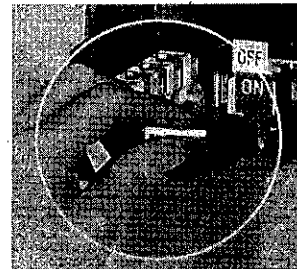

Fig. 12
2. Change the fixed and moving contacts every two years. Do not file contacts. See Figs. 12 and 13